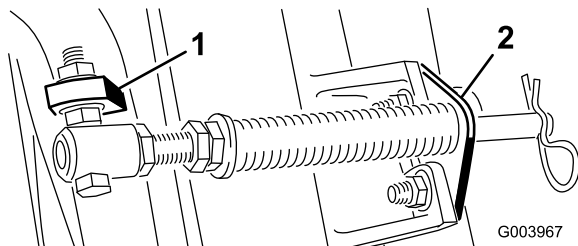

Figure 5
Note: Position to the bolt head to the outer side of the tab as shown in Figure 5.
- D. Mount the rod bracket to the cutting-unit tabs with the carriage bolts and nuts (Figure 5).